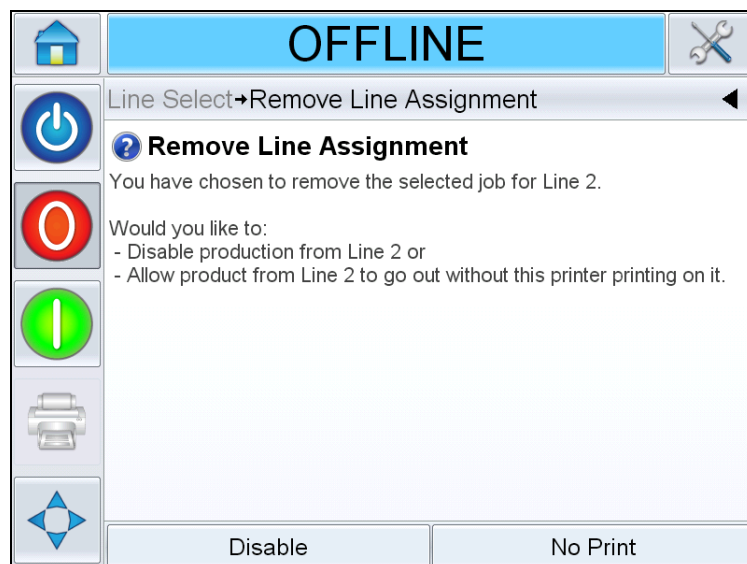

Figure 6-19: Remove Line Assignment
- b. *Remove Line Assignment* page appears with the following choices (see Figure 6-19):